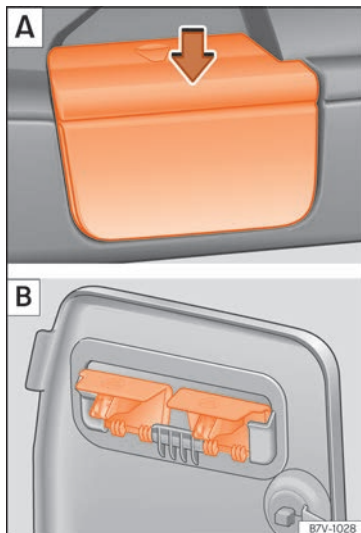

Fig. 142 Remove the shelf supports A then put them away safely B.
- Remove the shelf from the side trim support » **Fig. 142 A**. To do this, press the shelf upwards (arrow) and remove it.
- Open the compartment in the left-hand side boot lining » **page 152** and hook the shelf to the rear of the compartment lid » **Fig. 142 B**.